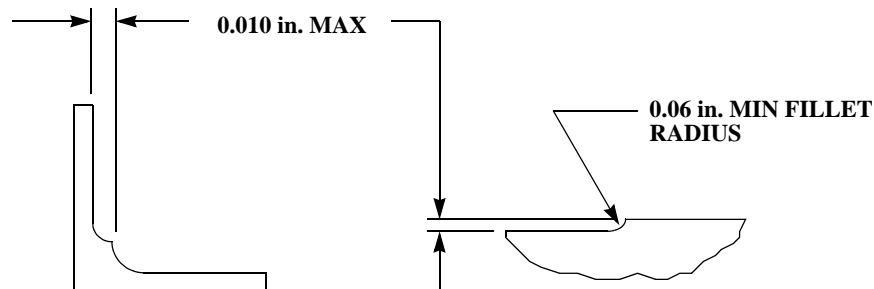

FIGURE 5: CUTTER MISMATCH TOLERANCE
- 2.6.1. The maximum allowable cutter path mismatch between nominally blended, non-attaching surfaces, is 0.010 inches with a minimum corner fillet radius of 0.060 inches and all surfaces must be within the specified tolerance of size. Ref. Figure 5.